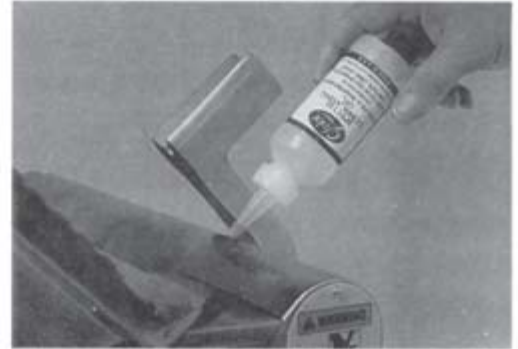

Figure 23-1
- b. Pull food chute handle completely forward (toward operator). (Fig. 23-1) Remove the food chute to improve the access to the oil hole.